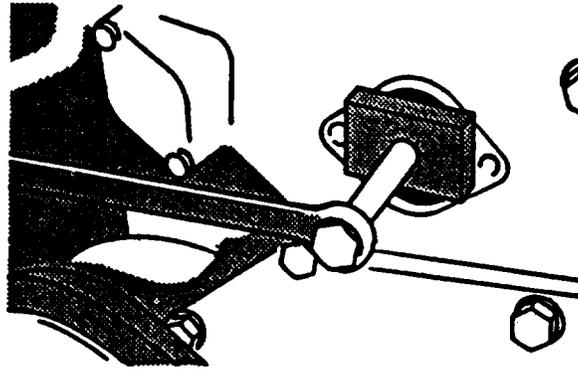

**FIGURE 3-43. Fuel Infection Pump Gear Access (Cover Removed)**
- i. Remove injection pump cover plate from timing gear cover, refer to FIGURE 3-43, cover shown removed.